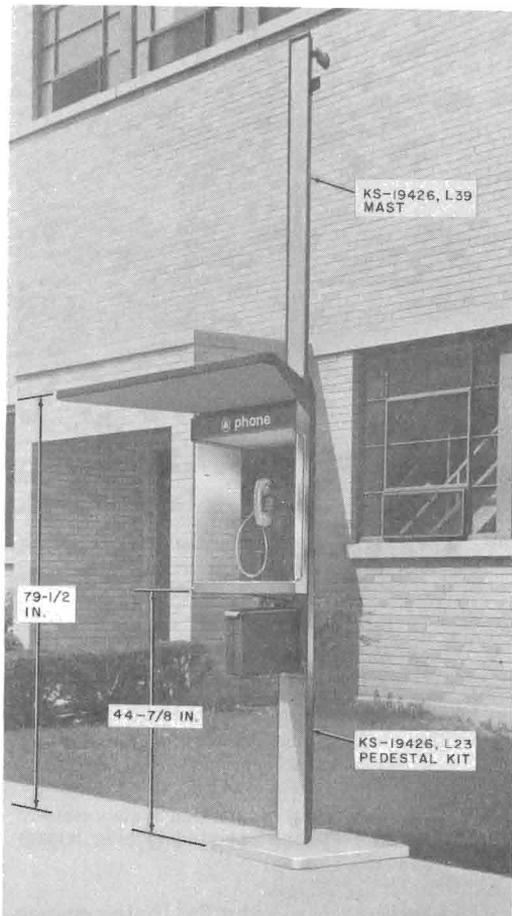

Fig. 2—KS-19426 Mounting for Walk-Up Outdoor Service with List 39 Mast
- (a) List 39 mast (Fig. 2) for use on outdoor mounting with canopy.